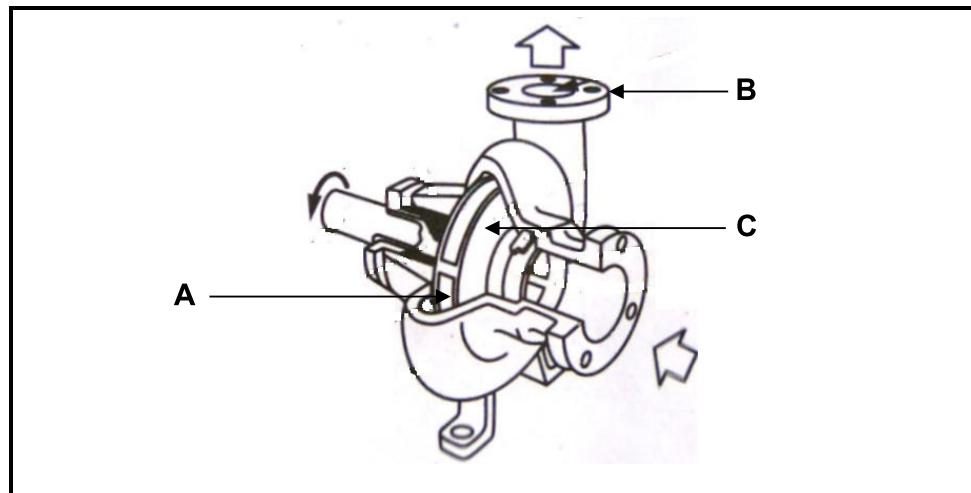

FIGURE 4.12
4.12 Answer the following questions with regard to the tool in FIGURE 4.12.